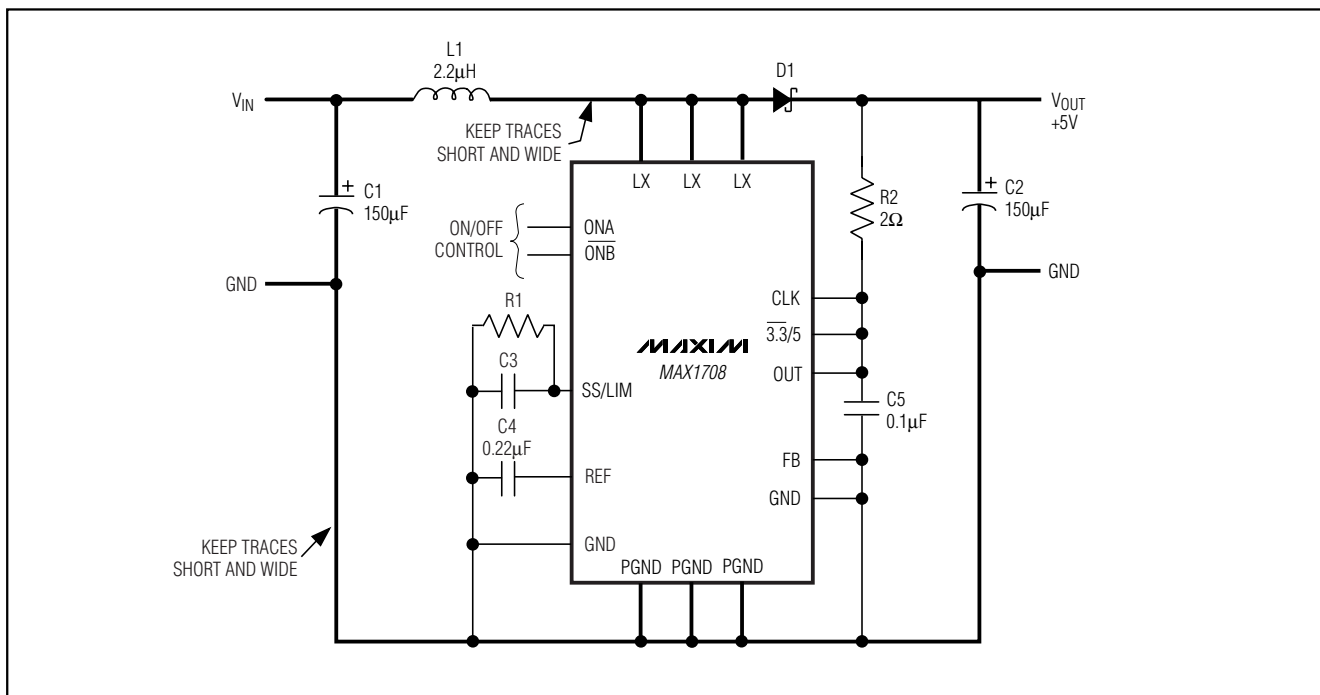
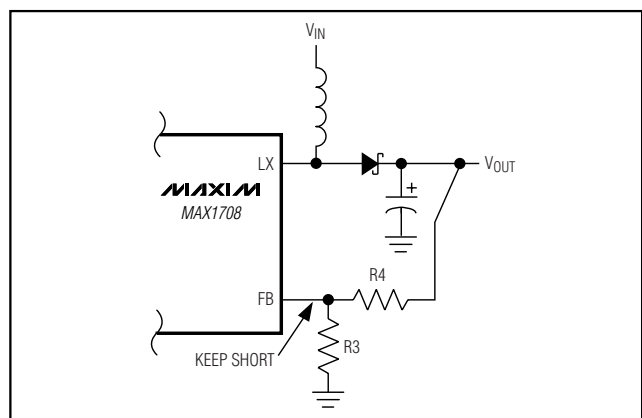

Figure 1. Standard Operating Circuit
Figure 4. Adjustable Output Voltage
Note 4: Startup is tested with Figure 1's circuit. Output current is measured when both the input and output voltages are applied.
(Circuit of Figure 1, $T_A = +25^\circ\text{C}$, unless otherwise noted.)
The MAX1708 features Dual Mode™ operation. When FB is connected to ground, the MAX1708 generates a fixed output voltage of either +3.3V or +5V, depending on the logic applied to the 3.3/5 input (Figure 1). The output can be configured for other voltages, using two external resistors as shown in Figure 4. To set the output voltage externally, choose an R3 value that is large enough to minimize load at the output but small enough to minimize errors due to leakage and the time constant to FB. A value of R4 ≤ 50kΩ is required
The soft-start pin allows the soft-start time to be adjusted by connecting a capacitor from SS/LIM to GND. Select capacitor C3 (see Figure 1):
To improve efficiency or reduce inductor size at reduced load currents, the current limit can be reduced from its nominal value (see *Electrical Characteristics*). A resistor (R1 in Figure 1) between SS/LIM and ground reduces the current limit as follows:
- I_{LIM} = minimum value of switch current limit from *Electrical Characteristics* or set by R1 of Figure 1.
The output filter capacitor ESR must be kept under 30m Ω for stable operation. Polymer capacitors of 150 μ F (Panasonic EEFUE0J151R) typically exhibit 10m Ω of ESR. This translates to approximately 35mV of output ripple at 3.5A switch current. Bypass the MAX1708 IC supply input (OUT) with a 0.1 μ F ceramic capacitor to GND and a 2 Ω series resistor (R2, as shown in Figure 1).
sensitive analog grounds by using a star ground configuration. Connect PGND, the input bypass capacitor ground lead, and the output filter capacitor ground lead to a single point (star ground configuration). In addition, minimize trace lengths to reduce stray capacitance and trace resistance, especially from the LX pins to the catch diode (D1) and output capacitor (C2) to PGND pins. If an external resistor-divider is used to set the output voltage (Figure 4), the trace from FB to the resistors must be extremely short and must be shielded from switching signals, such as CLK or LX. To optimize package power dissipation and minimize device heating under heavy loads, expand PC trace area connected to the three PGND pins as much as the layout can allow. This is best